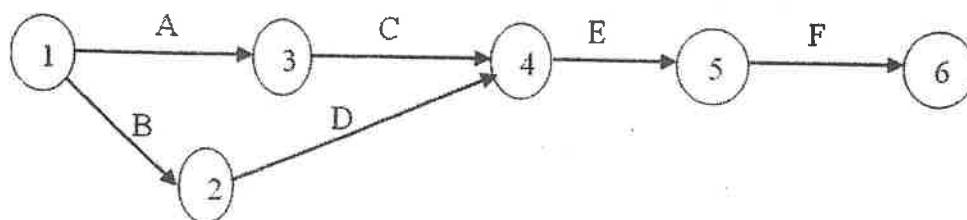

Figure Q4: Network Diagram for LOB Preparation
- a) Table Q4 provides information to prepare a Line of Balance (LOB) diagram for a construction project which consists of the activities shown in Figure Q4. If the project is to construct 20 number of identical units, carry out the following:
- i Draw the LOB diagram to show the information in Table Q4 and Figure Q4.